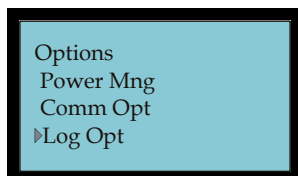

Figure 2-111 Select Log Opt Menu
2. Press **OK** to display the Options menu and select Log Options (see **Figure 2-111**).